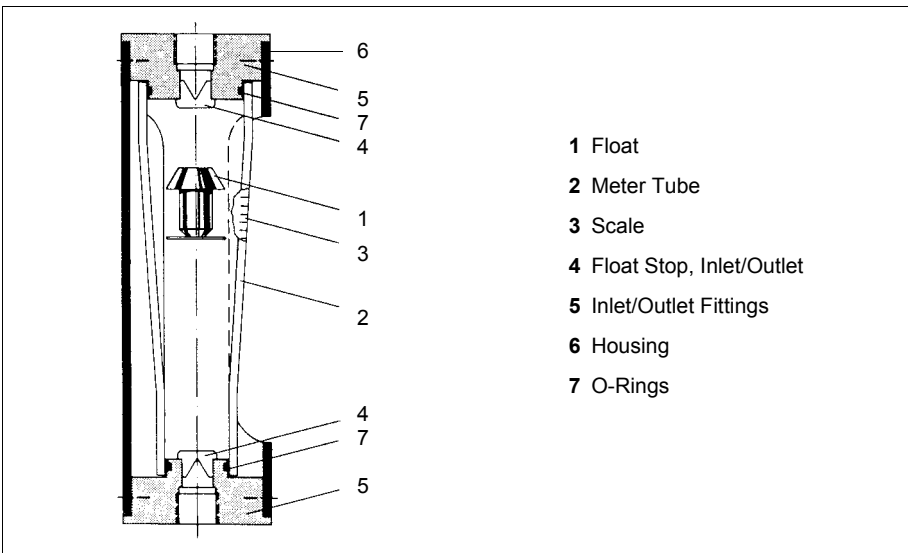

Fig. 1-1: Basic Design, Glass Tube Flowmeter
In its simplest form the design of the Variable Area flowmeter consists of metering elements (see Fig. 1-1). Float (1), meter tube (2) and flowrate scale (3), including fittings (5), flanges or couplings for installation in the pipeline and sealed with gaskets and O-Rings (7).